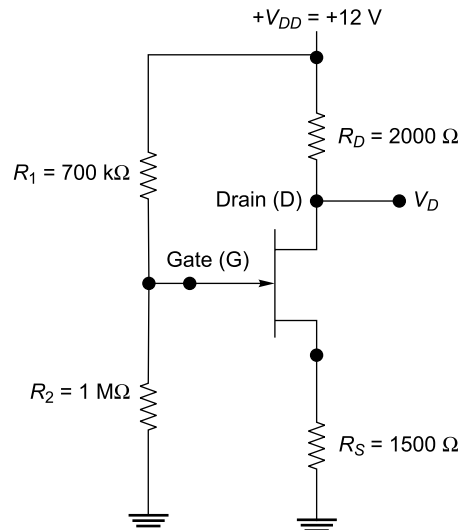

Fig. 1.87
42. A voltage divider biasing circuit of JFET is shown in Fig. 1.87. Determine the value of drain current I_D , gate-to-source voltage V_{GS} , and drain-to-ground voltage V_D when $I_{DSS} = 6 \text{ mA}$, $V_P = -5 \text{ V}$, $R_D = 2000 \Omega$, $R_S = 1500 \Omega$, $R_1 = 700 \text{ k}\Omega$, $R_2 = 1 \text{ M}\Omega$ and $V_{DD} = 12 \text{ V}$.